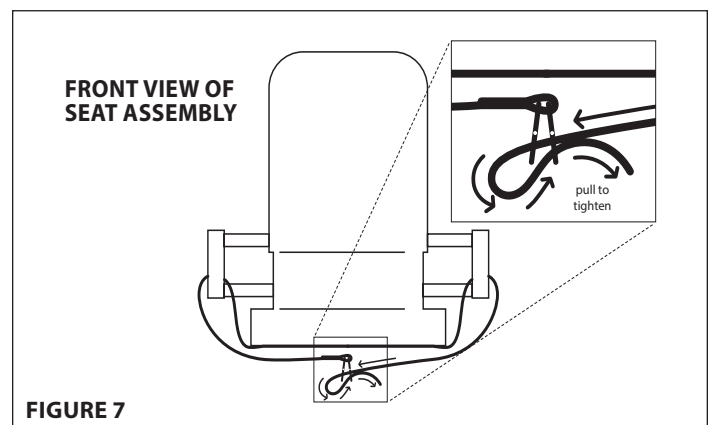

FIGURE 7
4. Attach padded seat (48103) by feeding straps around the lower portion of seat frame. Feed the long strap through both metal tri-slides that are sewn to opposite side of strap. Wrap the long strap back around one tri-slide and through the second tri-slide and pull tight. **SEE FIGURE 7.** Repeat the same operation for the other seat strap. Adjust as needed to achieve desirable seat height. Excess strap can be tucked away using provided Velcro tabs under the seat.
5. Attach (2) provided 9" camo arm pads (48736) to upper portion of seat frame weldment by wrapping around tubing and attaching Velcro together.